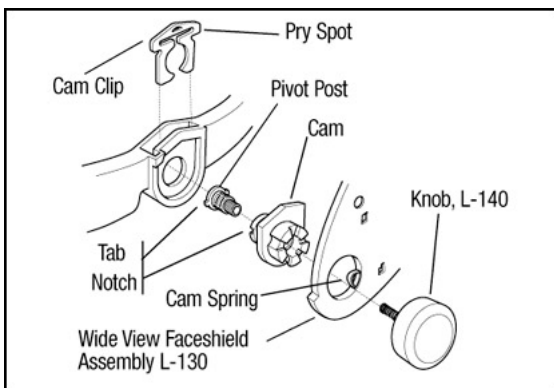

Fig. 13: Removing and Attaching a General Purpose Wide View Faceshield L-130 (L-901SG)
Both attach to the headgear using a positioning cam mechanism that is secured by a knob on each side of the headgear (Fig. 13 and 15). The pivot post and knob differ between the general-purpose and welding faceshields.
Refer to Fig. 13 or 15. On each side of the headgear:
- Install the cam mechanisms (Fig. 13).
- On one side of the headgear, slip the faceshield opening onto the headgear so that the cam spring on the faceshield fits into the mating groove on the cam (Fig. 13). Secure that side by screwing a L-140 knob into the cam.
- Remove the cam mechanism from both sides of the headgear per the instructions outlined previously (Fig. 13 and 15).